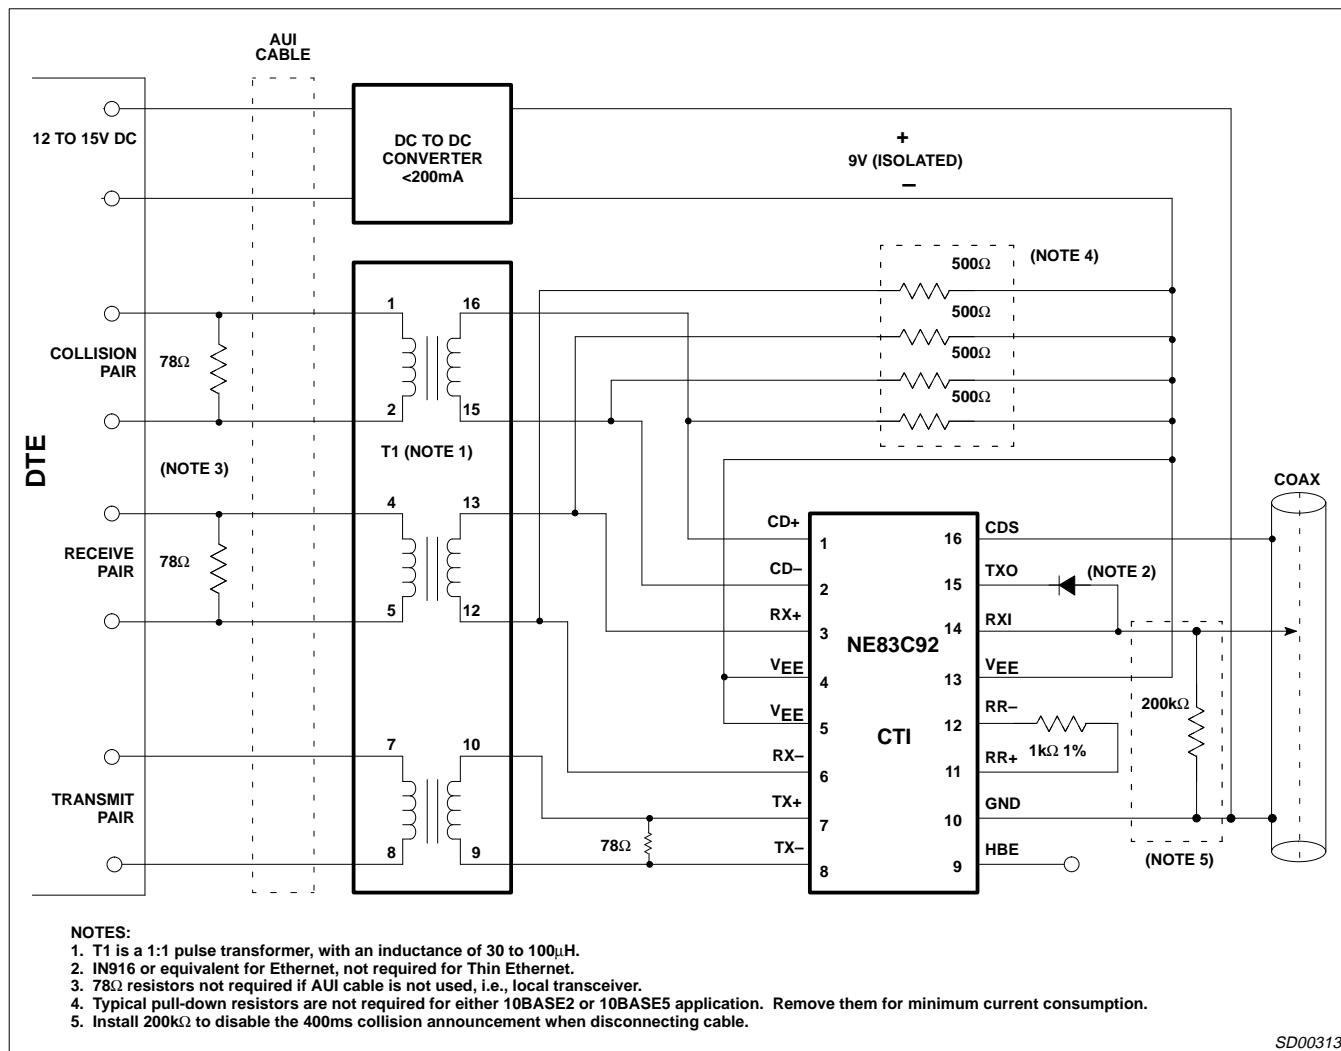

Figure 1. Connection Diagram for Standard 8392 Applications
- Measured on secondary side of isolation transformer (see Figures 1 and 2, Connection Diagram). The transformer has a 1:1 turn ratio with an inductance between 30 and  $100\mu\text{H}$  at 5MHz.